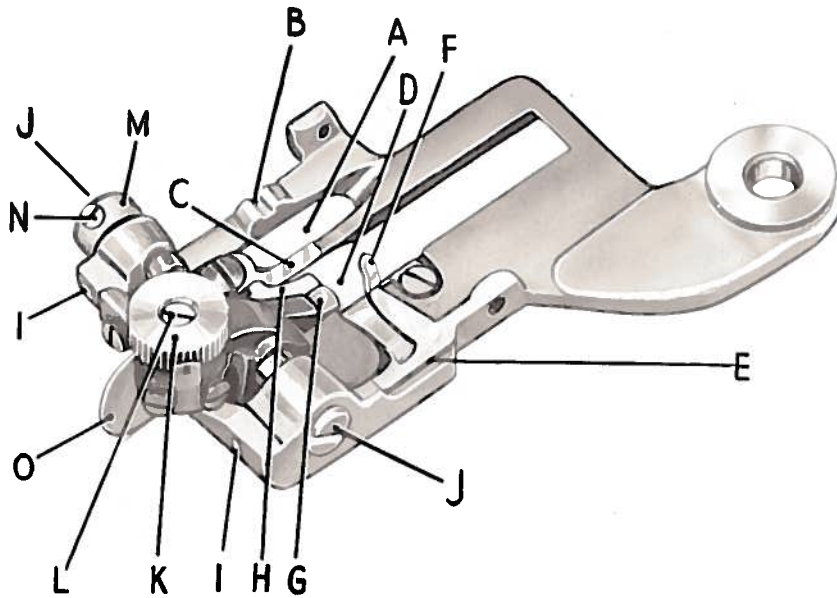
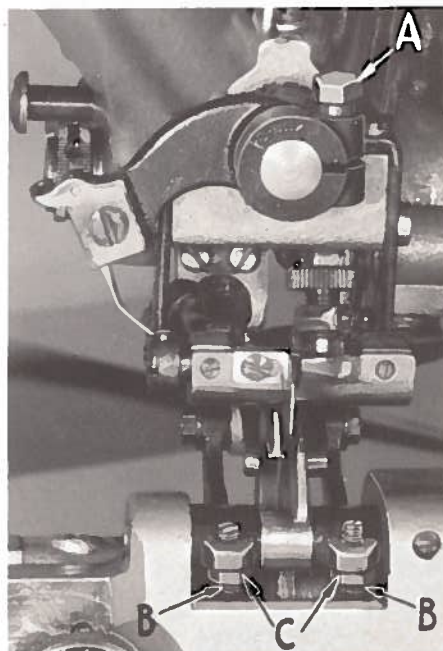

Fig. 1
Fig. 3
A view of the presser foot (Fig. 1) is shown to illustrate the various parts of the foot which are referred to in this and subsequent adjustments.
Loosen the needle carrier clamp screw (A, Fig. 3), and center the needle in the needle groove in presser foot (A, Fig. 1).
Loosen the needle carrier clamp screw, and set needle point 1/16 plus or minus 1/64 inch from the upper right edge of presser foot (E, Fig. 1).
Again, turn the handwheel in operating direction until the long prong of the looper is over the spot in the needle. At this point, the long prong of the looper should just clear the spot in the needle and be from $1/16$ to $3/32$ inch to the left of the inner end of the needle eye, and the short prong of the looper should clear the chaining finger of the presser foot (F, Fig. 1) by no more than $1/32$ inch.
This adjustment is made by the feed platen carrier adjusting screws (B, Fig. 3). Loosen lock nuts (C) and position screws so that they are $1/32$ inch from work table with the work table in operating position.
An additional adjustment is provided with the right yielding ridge former. Mounted in the presser foot and located over the ridge former is a compensating spring actuated crown (G, Fig. 1). With this device, it is possible to regulate the depth of needle penetration from the top side of the presser foot.